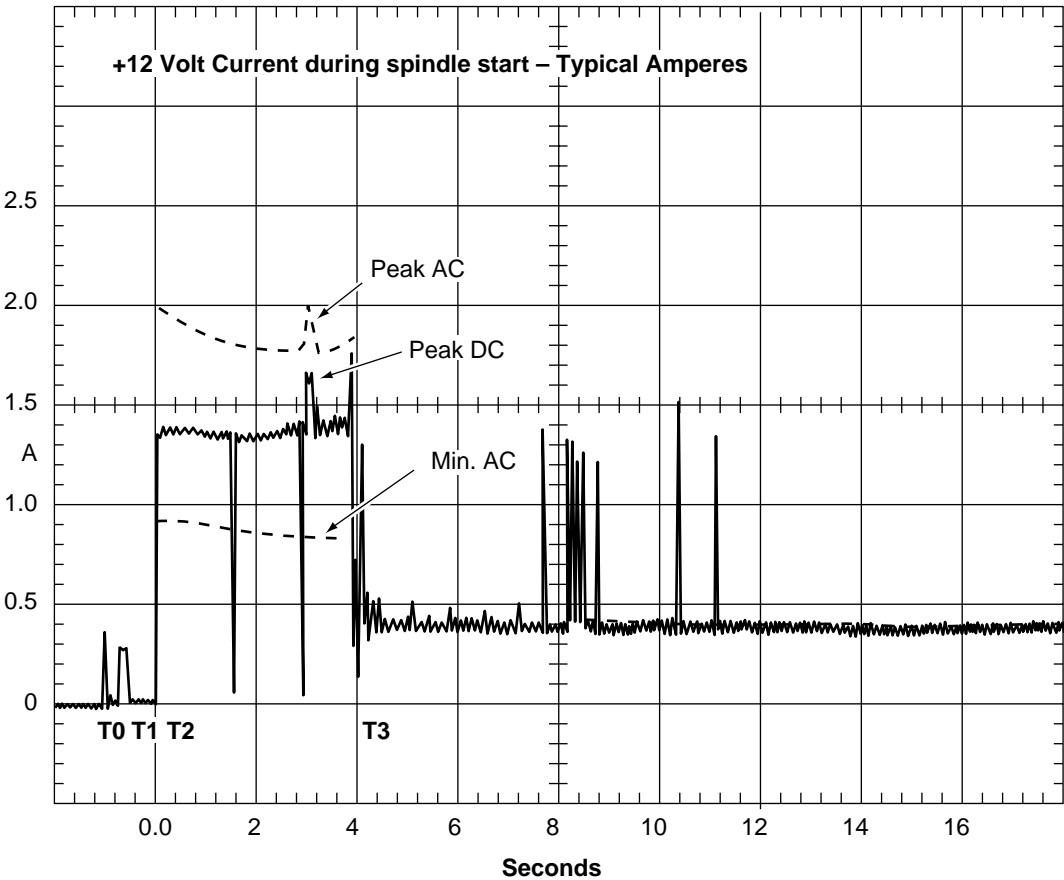

Figure 3. Typical Cheetah 9LP family drive +12 V current profile
- [3] See +12 V current profile in Figure 3.
Figure 3 identifies the drive +12 V current profile. The current during the various times is as shown: